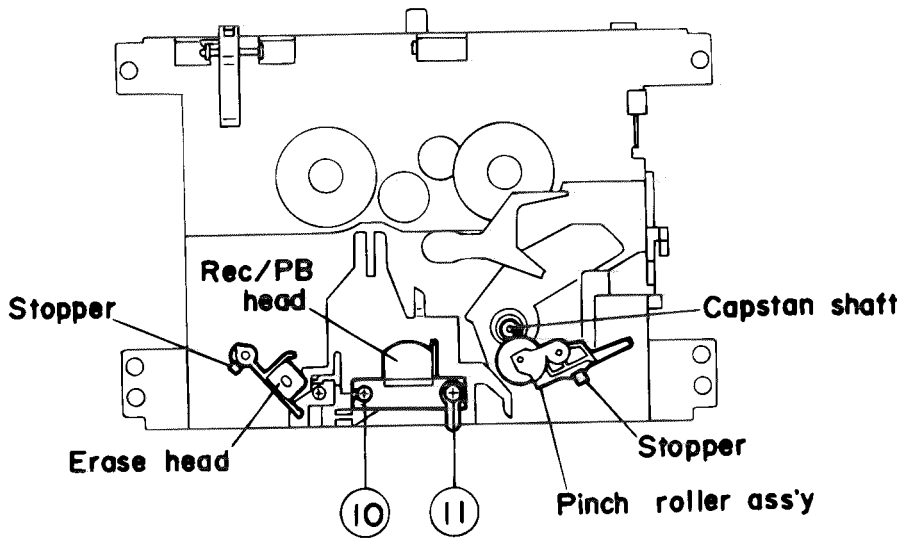

Fig.2-13
■ Pinch roller assembly (Fig.2-13 to 2-14)
■ Rec /PB head and erase head (Fig.2-13 to 2-15)